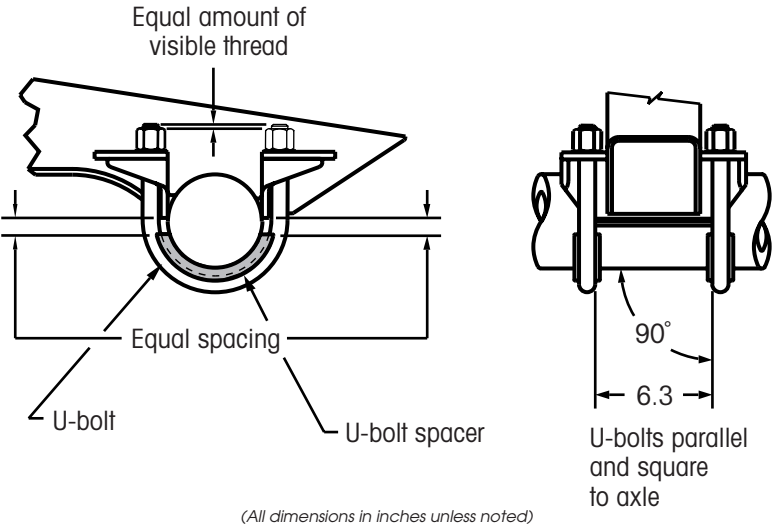

Figure 7. U-bolt positioning with U-bolt spacer
2. Install U-bolts and spacers on the axle and through the mounting holes in both suspension beams. Ensure U-bolt spacer fits properly in the mounting area (Figure 7).
NOTE: Proper tightening will result in an equal amount of thread visible above the nut on each side of the U-bolt (Figure 7).